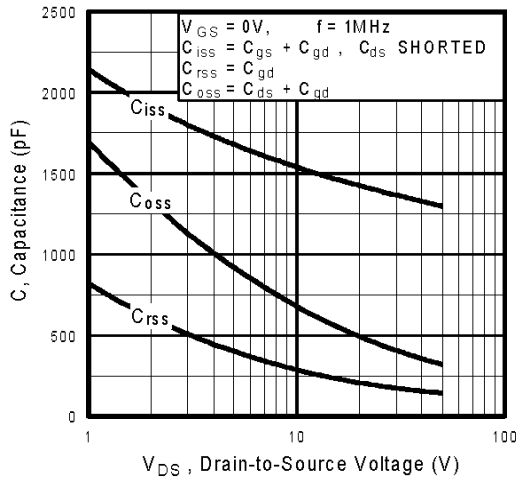

Fig 5. Typical Capacitance Vs. Drain-to-Source Voltage
| C_{rss} | Reverse Transfer Capacitance | — | 150 | — | | $f = 1.0MHz$, See Fig. 5 ⑦ |